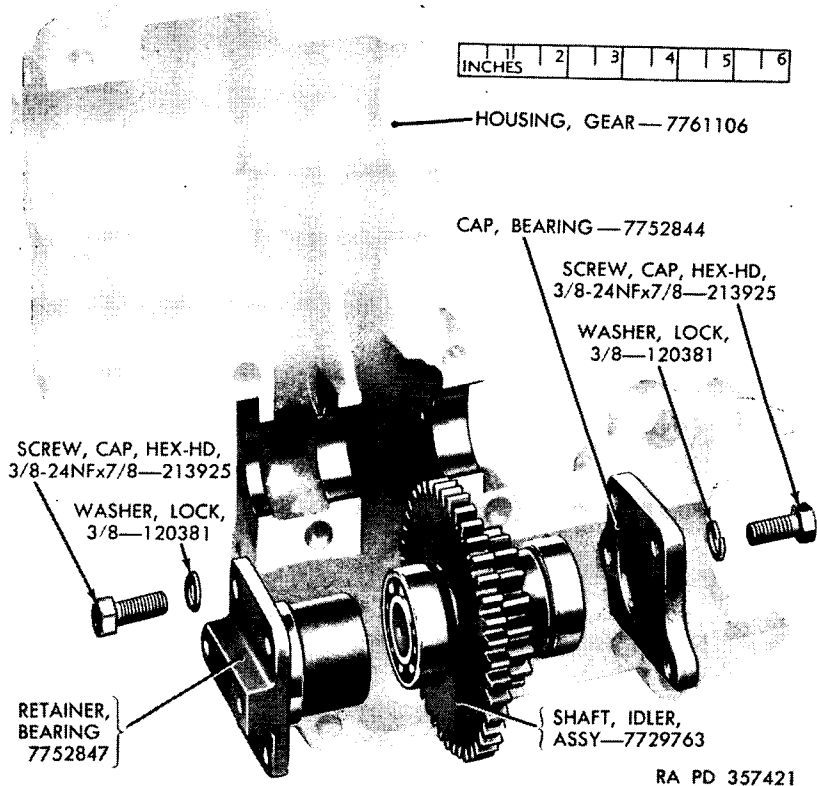

Figure 80. Idler gear and shaft assembly.
i. DISASSEMBLE IDLER GEAR AND SHAFT ASSEMBLY (figs. 80 through 83). Inspect both bearings, pinion, and gear before disassembly (par. 39). Remove shaft out of idler shaft gear and one bearing with puller or use arbor press (fig. 82). Remove shaft out of pinion and other bearing with puller, or use arbor press (fig. 83).